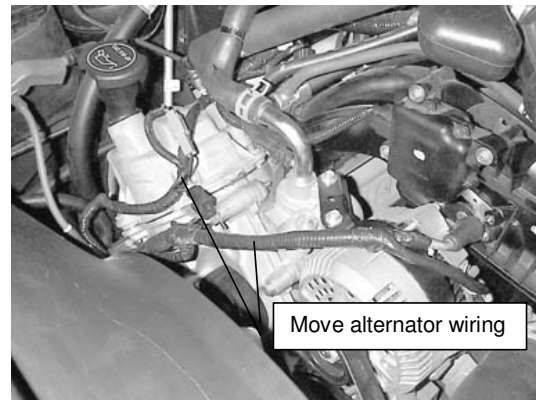

Fig. 5
6. Remove OEM idler pulley (12) to gain access to mounting bolt at location B. Keep the pulley and bolt.
7. Remove nut (13) holding wire at location A. Remove stud bolt (6) at location A. Remove OEM bolt at location B.
8. Install the hose adapters into the pump ports. Bolt pump (3) onto pump plate (1) with two 3/8 x 1 1/4 bolts (9) with two 3/8 lock washers (28). Attach coil (4a) with four 1/4 x 1/2 flange bolts (4b). Torque these to 6 ft-lb. Attach clutch pulley (4c) to pump shaft with 5/16NF x 1 1/4 bolt (4d) and heavy washer (4e). Torque to 14 ft-lb.
9. Attach the idler pulley (5) to the boss on the front of the pump mount bracket (1) at Location C with the 3/8 x 2 bolt (8). Torque to 19-25 ft-lb.
10. See Fig. 5. Disconnect the wiring from the alternator, pull it from the attachment points on the valve cover and push it back on top of the valve cover. Make sure the alternator wiring will not be pinched between the engine and pump bracket when it is installed.